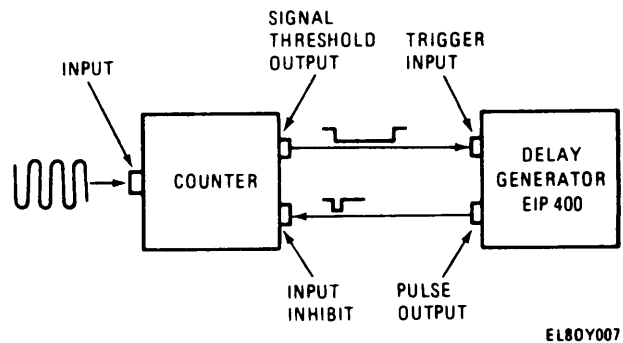

Figure 2-3. Pulse Profile Measurement Test Setup
b. Measurement Technique. Measurements of these characteristics are easily made with the counter and a delaying pulse generator (see fig. 2-3).